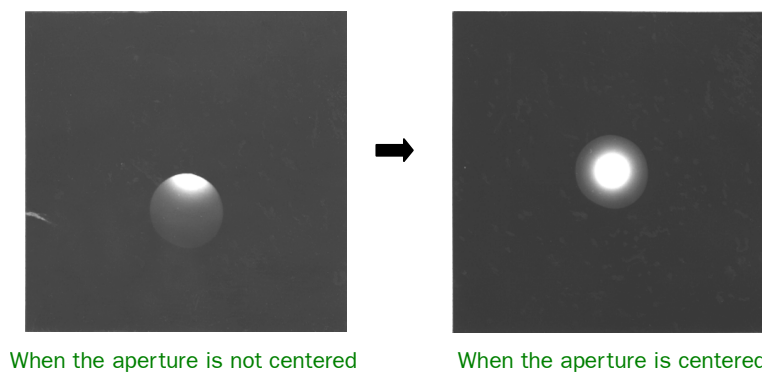

Fig. 5.23 Objective aperture centering
4. Obtain the smallest possible illumination spot using the BRIGHTNESS knob (L1-⑥) and adjust the SHIFT-X and -Y knobs (L1-⑧, R1-③) so that the illumination spot coincides with the screen center.
5. Insert the desired objective aperture into the beam path using the objective aperture knob (1).
6. Focus the aperture image (shadow) using the DIFF FOCUS knob (R1-⑦).
7. Adjust aperture knobs (2) and (3) so that the caustic spot lies in the center of the caustic spot (☞ Fig.5.23). This centers the aperture.